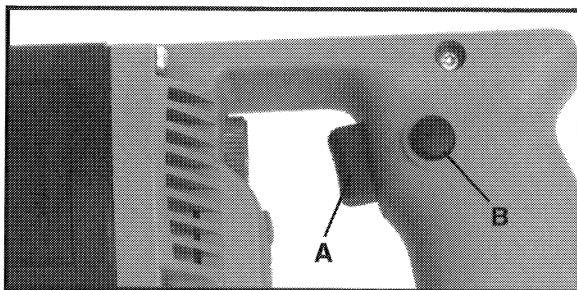

Fig. 1
3. Squeeze trigger switch (A) Fig. 1, to start motor. Release trigger to stop motor.
4. LOCK BUTTON – A lock button (B) Fig. 1, is provided to keep motor running without holding the trigger switch.